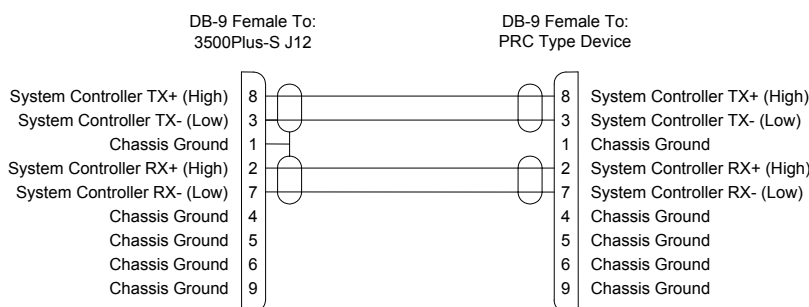

Figure 29. 3500Pro-S RS-422 Serial Cable
- COM 3/PRC is the communications interface to a PRC type routing switcher system and is connected to a routing switcher. If necessary, a cable up to 4000 feet in length may be fabricated in the field as shown in Figure 29.